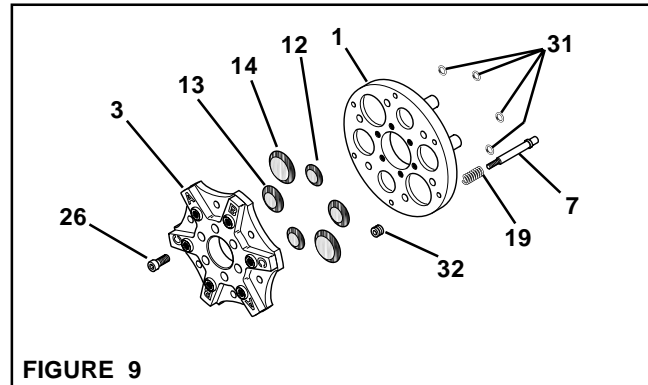

FIGURE 9
6. Remove the six Socket Head Cap Screws (Item 26); then, separate the Cylinder (Item 1) from the Endcap (Item 3) (See Figure 9).
There are three sizes of Diaphragms (See Table 1). When replacing the six Diaphragms, make sure the correct size Diaphragm is used for each Diaphragm location (See Figure 9).
7. Remove the six old Diaphragms (Items 12, 13, and 14) from the Endcap (Item 3) (See Figure 9).
8. Remove the six old O-rings (Item 31) from the ends of the Pistons (Items 8, 9, and 10) (See Figure 9).
9. Remove the six Finger Nuts (Item 32) from the six Facing Pins (Item 7) by gently holding the Facing Pin with a pair of pliers: then, slide the Facing Pins and six Compression Springs (Item 19) out of the Cylinder (Item 1) (See Figure 9).
10. Replace the six old Compression Springs (Item 19) with six new Compression Springs; then, slide the six Facing Pins (Item 7) and new Compression Springs back into the Cylinder (Item 1) (See Figure 9).
11. Apply a drop of Loctite® 242 to the threads of the six Facing Pins (Item 7); then, gently screw the six Finger Nuts onto the six Facing Pins while holding the Facing Pins with a pair of pliers, securing the six Facing Pins and new Compression Springs (Item 19) into the Cylinder (Item 1) (See Figure 9).
12. Install the six new Diaphragms (Items 12, 13, and 14) into their respective locations in the Endcap (Item 3) (See Figure 9).
13. Match the Pistons (Items 8, 9, and 10) in the Cylinder (Item 1) with the Diaphragms (Items 12, 13, and 14) in the Endcap (Item 3) (See Figure 9).
14. Install new O-rings (Item 31) onto the ends of the Pistons (Items 8, 9, and 10) (See Figure 9).